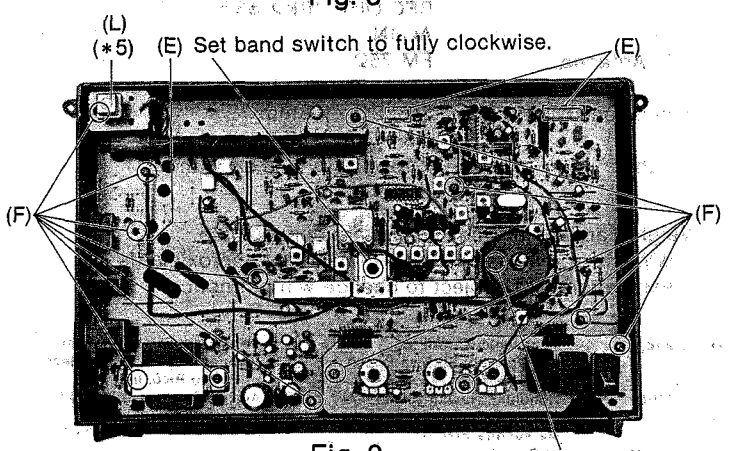

Fig. 9
- *3. To reassemble the tuning shaft ass'y, set the rib as shown in fig. 9.